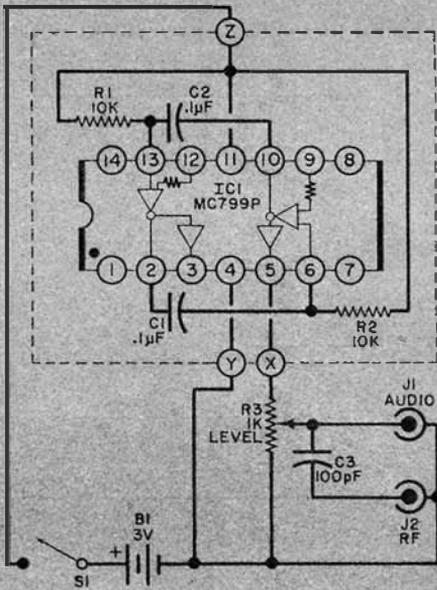

Fig. 1. One-IC circuit provides both audio and r.f. tracing signals; each output signal is continuously variable in amplitude.
**Construction.** As you can see from the schematic diagram in Fig. 1, the circuit of the IC Signal Injector is very simple. However, since it does employ an integrated circuit with closely spaced pin leads, it is essential to use a printed circuit board. You can obtain a prepunched and etched board from the source listed in the Parts List, or you can make your own with the aid of the etching guide provided in Fig. 2.
Integrated circuit *IC1* in Fig. 1 is a dual inverting buffer. Each input has two outputs, one low- and the other high-level. The low-level outputs are cross-coupled to each buffer input through capacitors *C1* and *C2* and charging resistors *R1* and *R2* to form an astable multivibrator.